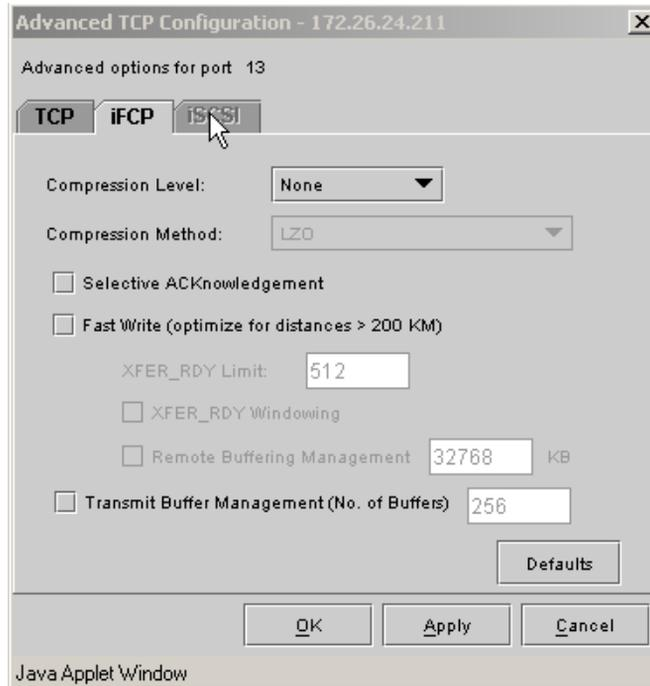

Figure 4-4 Advanced TCP Configuration iFCP Parameter
- Select the iFCP tab from the *Advanced TCP Configuration* dialog box (refer to Figure 4-4) to specify the *iFCP* parameters: